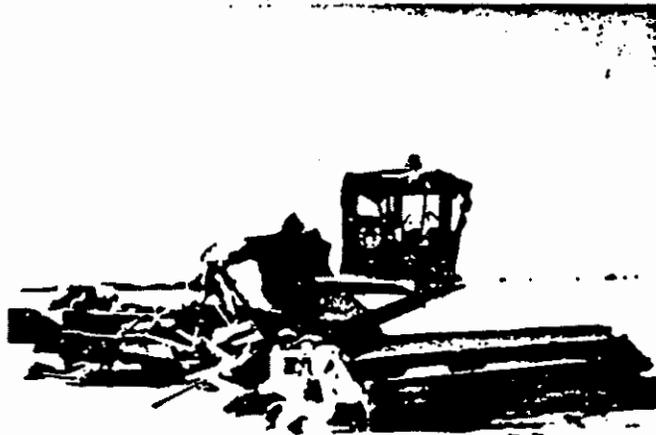

Figure 1. Distance at which engine exhaust is 25 mph.
- An aircraft just starting to move will generate considerably more jet blast or prop wash than one that is idling (see Figure 1). Consequently a vehicle that may be in a safe position for idle thrust may be subject to a mishap when breakaway thrust is applied. Other situations to be aware of include when an aircraft is turning or using reverse thrust to back up.